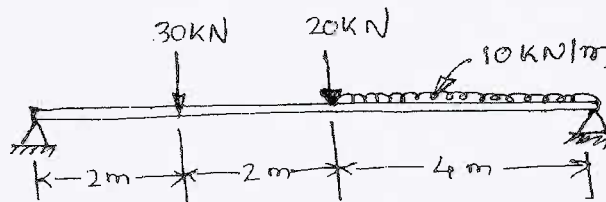

Fig. Q5 (b)
b. The simply supported beam shown in Fig. Q5 (b), carries two concentrated loads and a uniformly distributed load. Draw shear force diagram and bending moment diagram. (14 Marks)